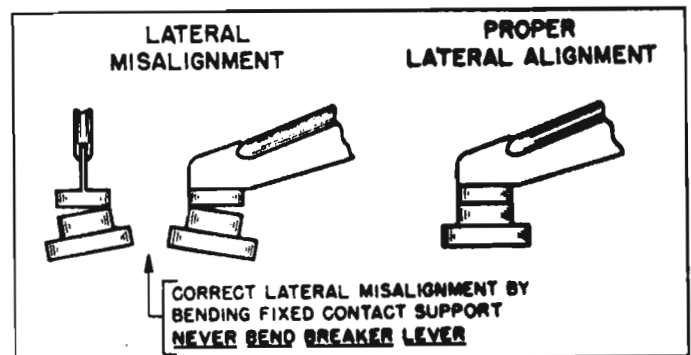

Fig. 7-4—Alignment of Points
- Check alignment of distributor points with points closed (fig. 7-4). Align new points where necessary, but do not attempt to align used points. Instead, replace used points where serious misalignment is observed.